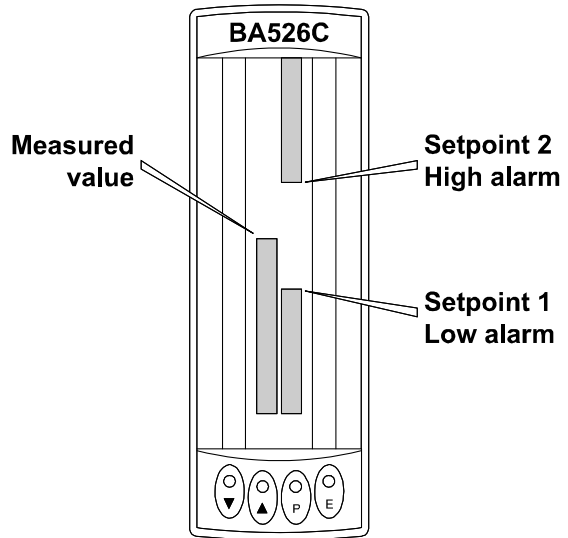
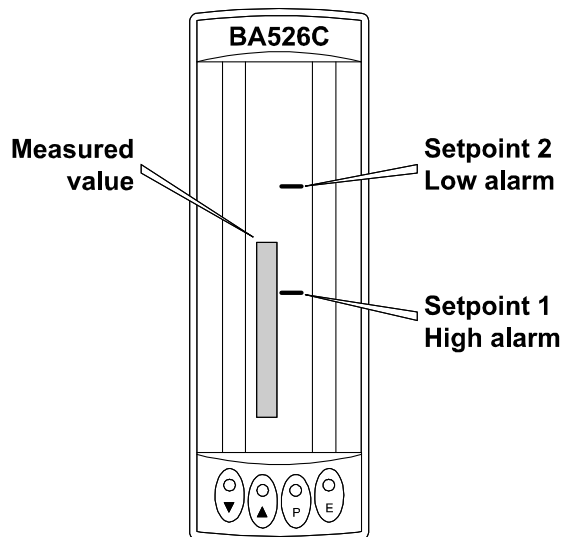

Fig 11A Set point display
Fig 11B Display with set points reversed
When alarm 1 is programmed as a low alarm and alarm 2 as a high alarm, the display shown in Fig 11A will be produced providing setpoint 1 is less than setpoint 2. If the low setpoint (1) is greater than the high setpoint (2), or the function of the alarms is reversed, the setpoints will be indicated by two single segments on the right hand bargraph as shown in Fig 11B.